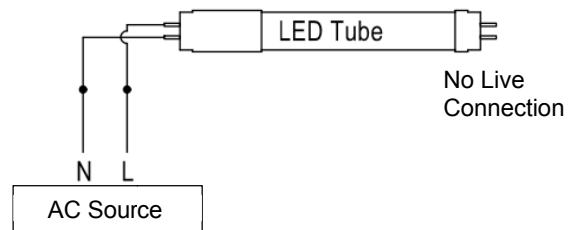

Figure 3
Step 6: Install the LED lamp to the light fixture. The wiring connection will be shown as Figure 3.